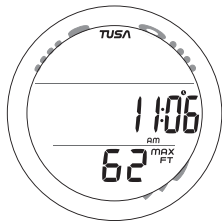

Fig. 106 - FREE DIVE ALT 2
**Free Dive ALT 2** information includes (Fig. 106) -